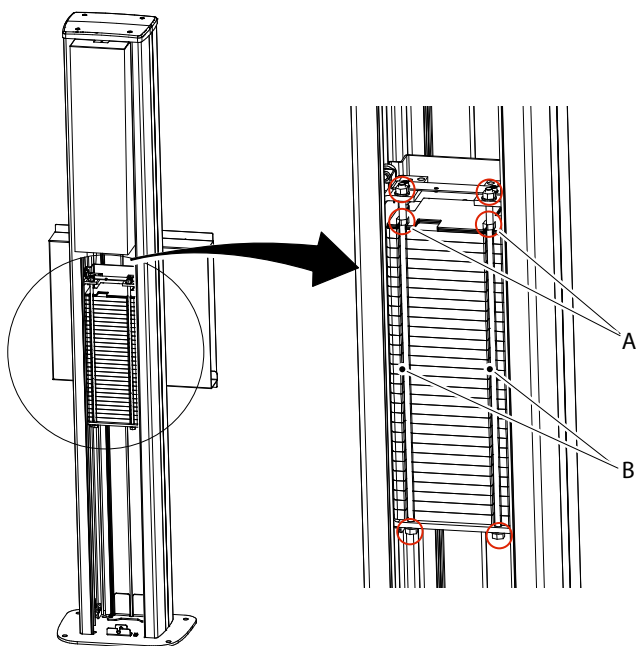

Fig. 4-44 Counterweight screws
8. The counterweights must be fixed with two long screws (B) and six nuts. Three on each side to make sure that they are pulled together, see **Fig. 4-44**.